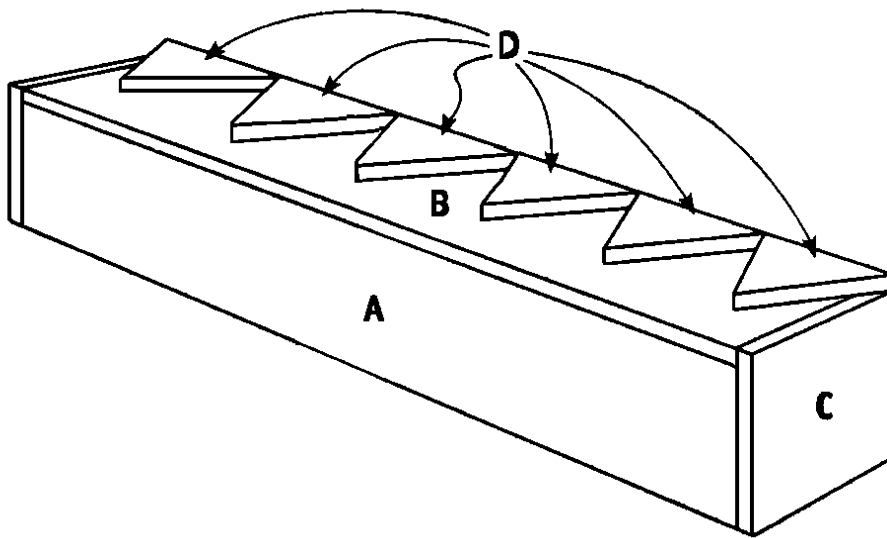

Figure 3
1. Cut eight Triangular Trims (D) from 1 x 8 pine, each measuring 6-1/4 x 4-7/8 x 4-7/8 inches.
2. Sand all edges of each of the Triangular Trims (D).
3. Place the table assembly Front Side up on a level surface. Place six evenly spaced Triangular Trims (D) across the Front (B), even with the top edge of the table, as shown in *Figure 3*. After sanding, you will have minuscule spaces between the Triangular Trims (D).
4. Apply glue on the meeting surfaces, and attach the six Triangular Trims (D) to the Front (B), using two 1-1/2" nails. Nail through the Triangular Trims (D) into the Front (B).
5. Center one Triangular Trim (D) on the top edge of one Side (C).
6. Apply glue on the meeting surfaces, and attach the Triangular Trim (D) to the Side (C), using two 1-1/2" nails. Nail through the Triangular Trim (D) into the Front (B).
7. Repeat Steps 5 and 6 to attach the remaining Triangular Trim (D) to the opposite Side (C).